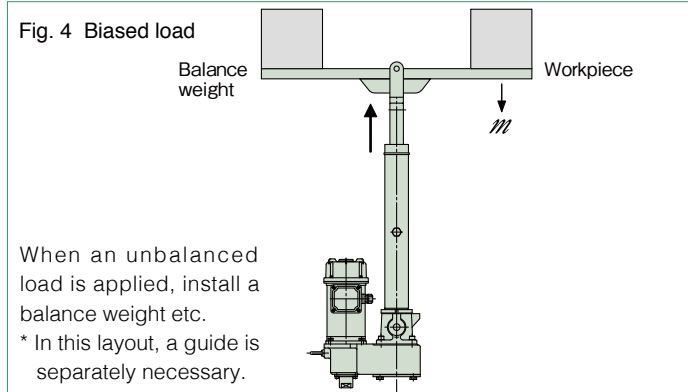

Fig. 4 Biased load
② Biased load Install balance weight etc. (Fig. 4)